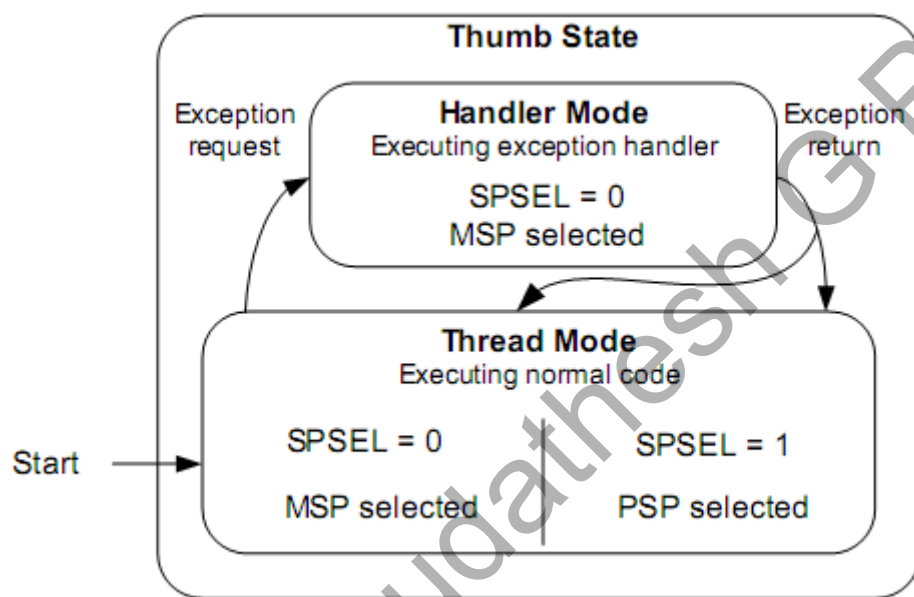

Figure 11: Stack Pointer selection
- Programs in privileged Thread mode can switch the Stack Pointer selection or switch to unprivileged access level by writing to CONTROL shown in figure 11. However, once nPRIV (CONTROL bit 0) is set, the program running in Thread can no longer access the CONTROL register.